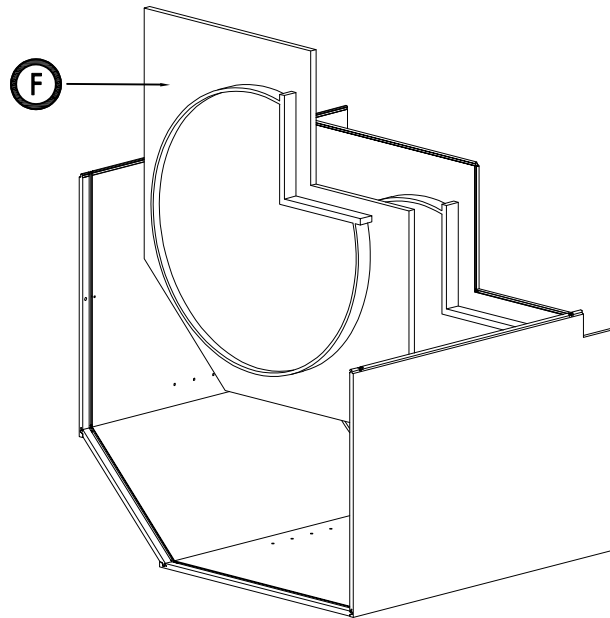

Figure 6
6. Install the turn table: install the turn table (M) inside of cabinet . (Figure6)